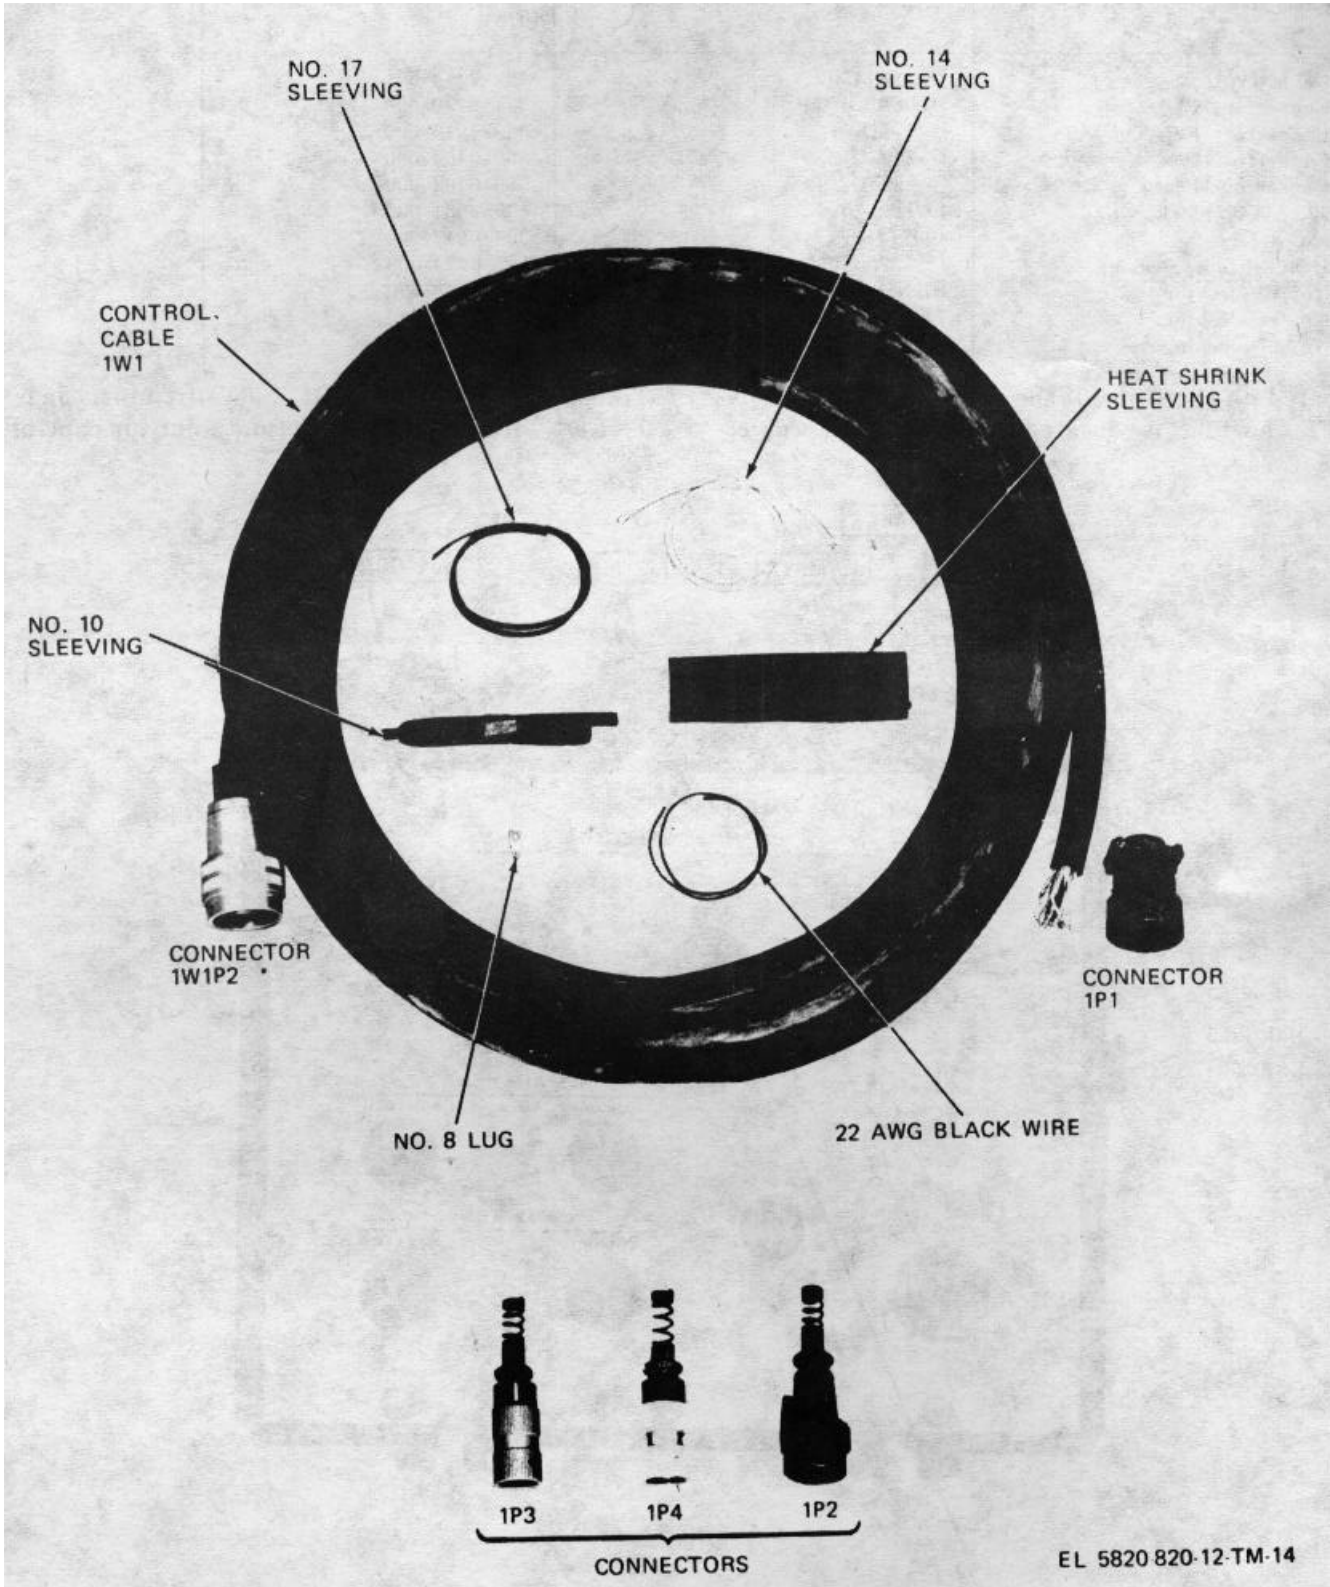

Figure 1-2. Cable assembly kit.
a. Cable Assembly Kit. The cable assembly kit (fig. 1-2 and table 1-1) contains control cable 1W1, and the connectors, sleeving, and terminal lug required to connect units of the radio set.